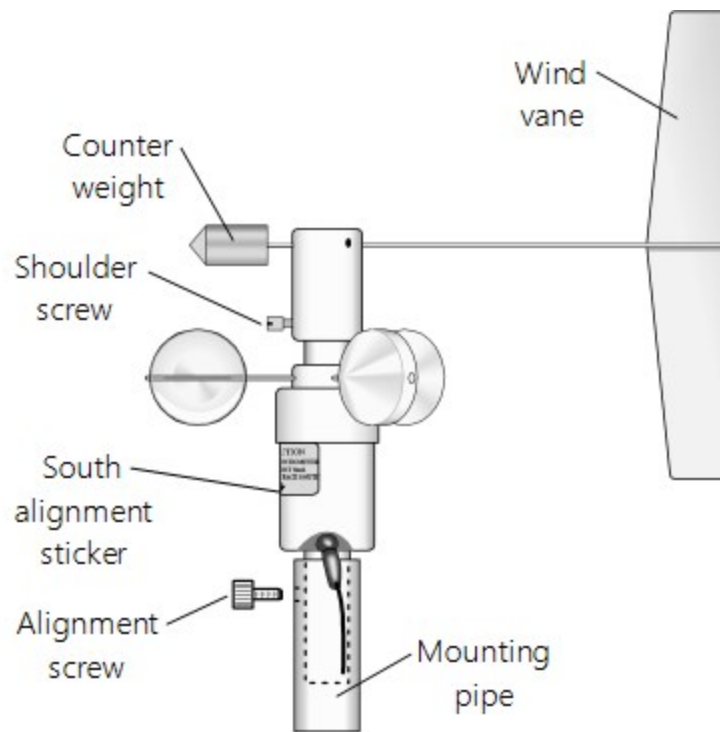

FIGURE 6-12. 034B mounting to pipe
1. Remove the alignment screw at the base of the 034B-ET (FIGURE 6-12 (p. 25)).